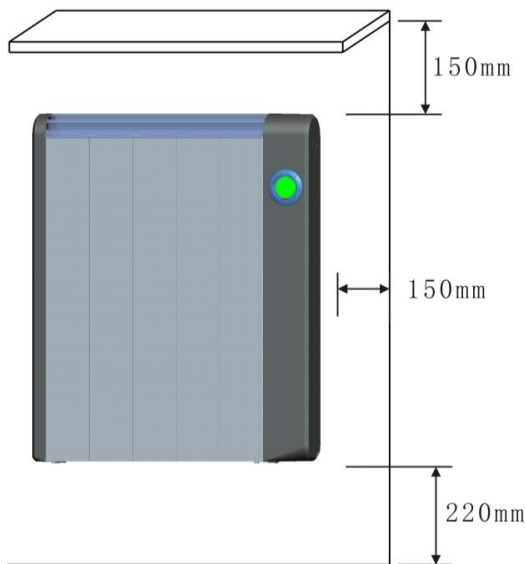

Fig.2
- 2. The heater should be placed with a minimum distance 150mm from all objects, walls (fig 2). The distance from the floor must be 220mm,.from the top must be 150m. (See figure"2").**